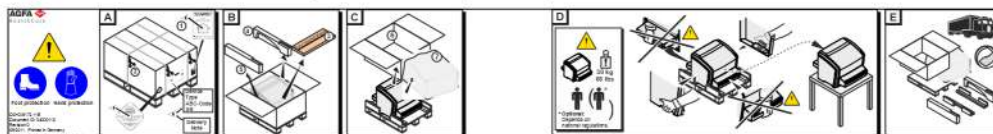

Figure 2
- (4) Unpack the digitizer. The unpacking instructions are printed on the digitizer box. Figure 2 shows an example of the unpacking instructions.